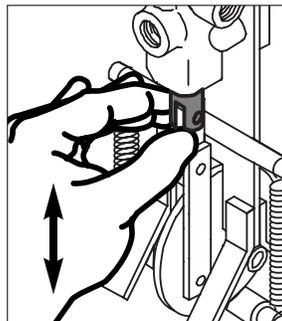

fig. 5
- B** Check by hand if the spool of the reversing valve moves up and down easily — *fig. 5*. If not, it may be scratched or the 4 bolts at the back of the valve may be too tight.
4. Change the oil filter under the hydraulic power unit — *fig. 5 in gray*.